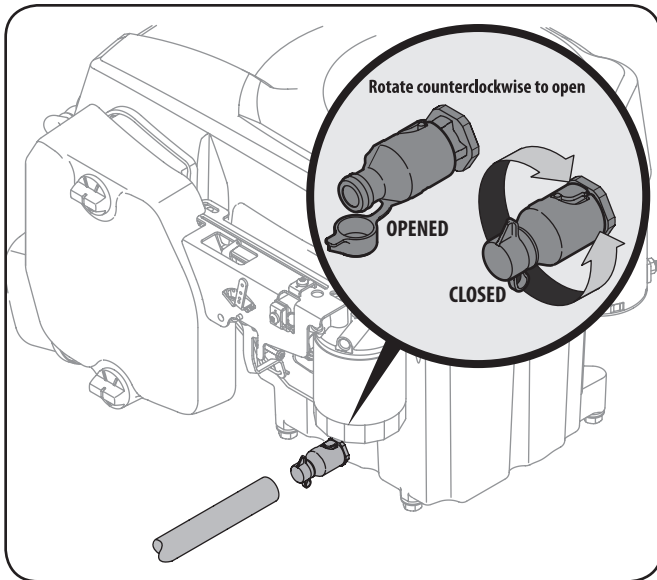

Figure 6-1
3. Pop open the protective cap on the end of the oil drain valve to expose the drain port. See inset of Figure 6-1.
6. Slightly push in on the oil drain valve and rotate to open and allow the flow of oil. See Figure 6-1.